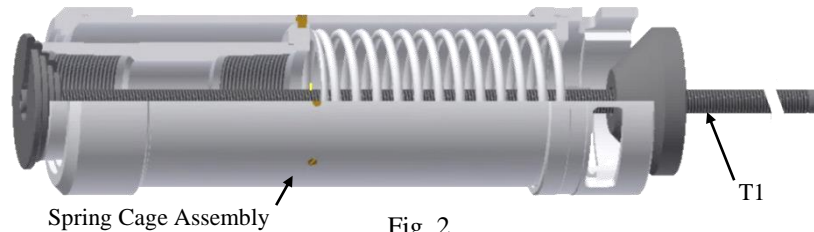

Fig. 2
J-1.17.2) Position assembly tool (T1) hand-tight against top sub (1) and upper slip body (6) of spring cage assembly (Fig. 2).